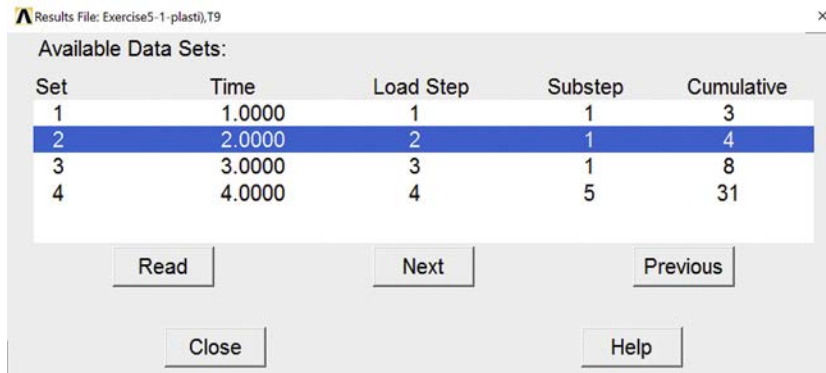

Figure 5-1-14 Choosing a Results Set by Picking.
- Click on the line for Data Set 2 (Figure 5-1-14)